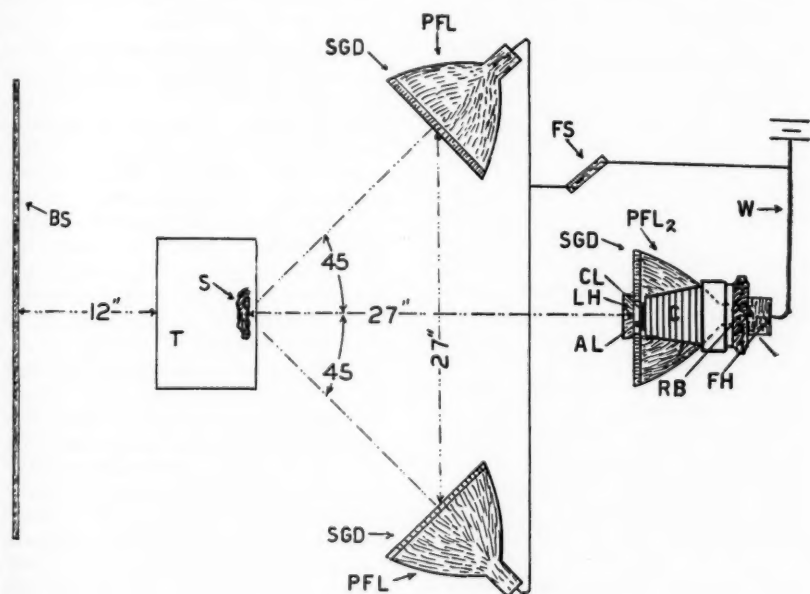

Figure 1
*Lighting:*—In all of the department's indoor work on minerals and rocks, 3 number 2 photoflood lamps are used. (PRECAUTION:—If you work in a dark room with artificial light you must use all artificial light and not mix daylight with it.) Figure 1 is a ground plan sketch of the set-up. Two of the lamps, PFL, are arranged in the conventional indoor lighting manner at a distance from the specimen that is not greater than the distance between the camera and the specimen. These two lamps are mounted at 45 degrees to the specimen's axis. Each of the lamps is screened by a spun glass diffusing screen, SGD, which gives better distribution of light. A third photoflood lamp is placed directly under the camera with its axis in line with the direction between the camera and the specimen. This lamp, PFL2, is used in focusing the specimen. (The other two photofloods are not used in the focusing.) PFL2 is operated by a pushbutton. The other two photoflood lamps are connected to the house current through a footswitch-FS.
*Light Meter:*—Color film does not have the latitude of black and white film and therefore, exposures must be made carefully. A light meter is a necessity. Any dependable light meter may be used. A Weston Master is in use in the department chiefly because the graduation of light value in reduced lighting can be determined very easily. When a light value reading is taken ALL of the Photofloods in figure 1 are illuminated. The meter is held within 2" of the specimen in such manner so that it will not shade the specimen. If there is a variety of color in the specimen, several readings are taken and the average of these readings is used. The writer has found by experience that using one stop LARGER than the in-
**Stand For Specimens:**—In Figure 1, T is the stand for the specimen, S. In this particular figure it is in position for proper focus with the camera in use. The stand ought to be of sufficient height so that the camera on the tripod or on the copying stand is close to eye level distance. The table for specimens that has been used is an ordinary small table on which a small box is mounted. Several books of varying thickness are kept handy in order to accommodate minerals of varying heights.
**Background Screen:**—BS in figure 1 represents a background screen which may be a large piece of plywood or a large piece of heavy ply cardboard on which can be tacked variously colored cardboard or cloth backgrounds. A word about backgrounds is appropriate. The writer first used a piece of neutral gray monk's cloth as a background. It was fastened onto the plywood and then brought forward over the box on which the specimen rested. The cloth happened to be too close to the specimen so that when the picture was completed the weave of the cloth was in sharp focus and detracted much from the mineral pictures. To obviate this difficulty of weave patterns the writer now uses variously colored matte paper—dark blue, gray, black—to fur-